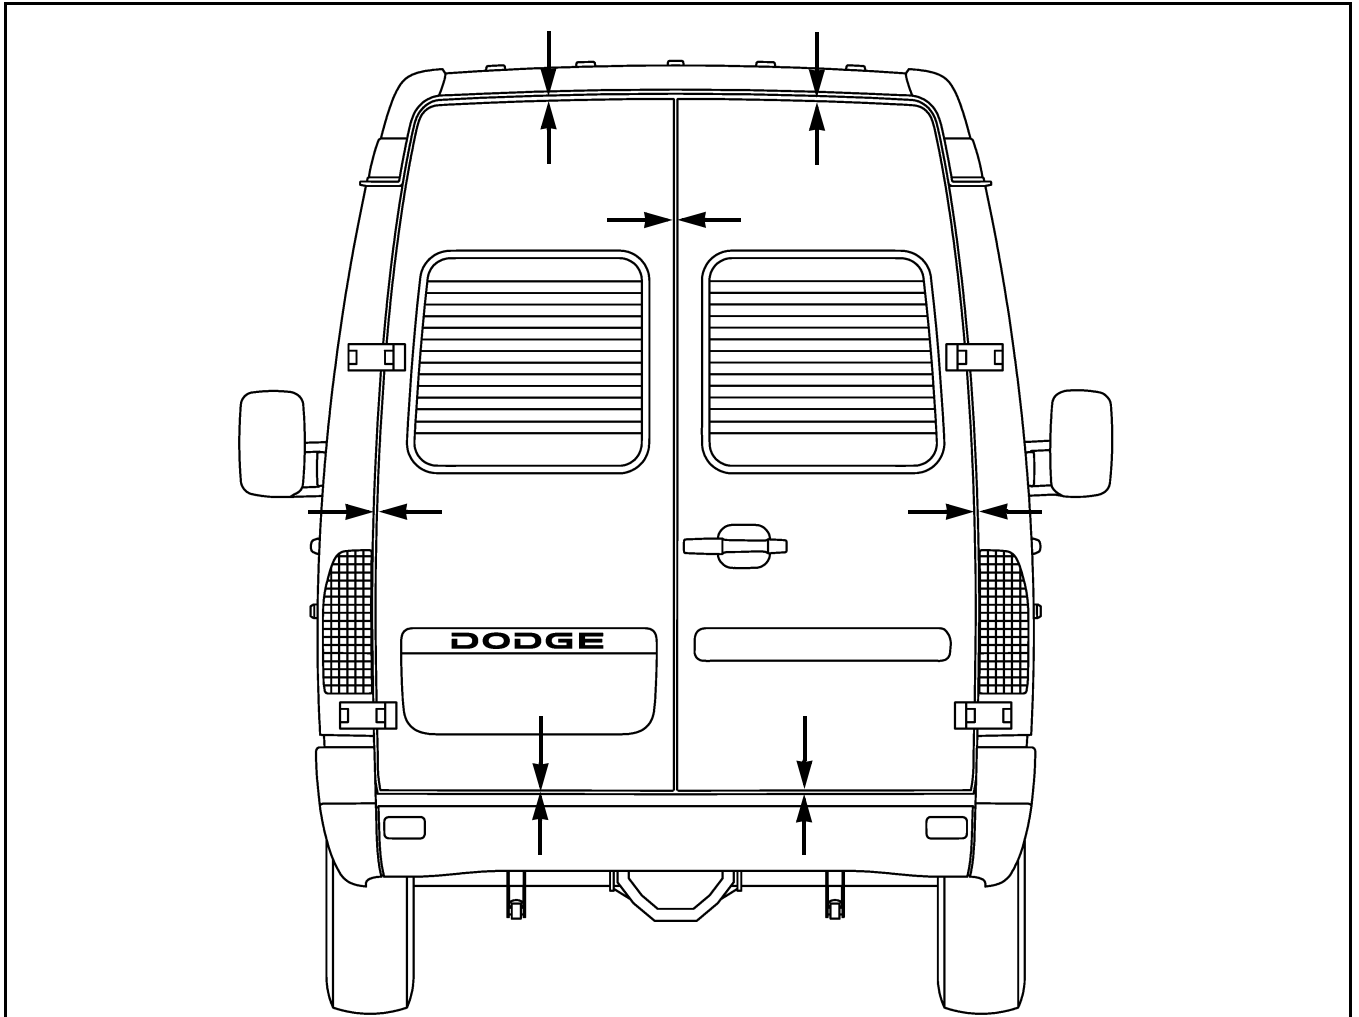

Figure 17 Rear Door Gap Measurements
1. Check door gap around rear doors (Figure 17). The door gap all around except at the top should be $8\text{ mm} \pm 0.5$ ($0.315\text{ in} \pm 0.019$). The door gap at the top should be $13\text{ mm} \pm 0.5$ ($0.512\text{ in} \pm 0.019$).